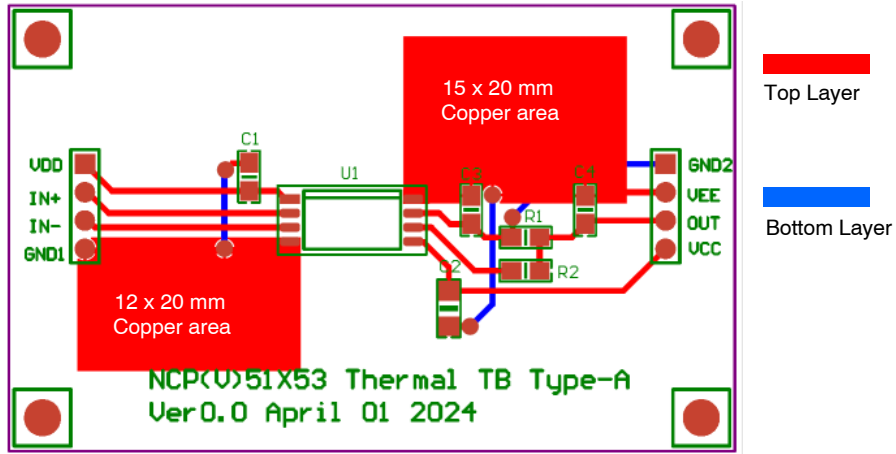

Figure 4. Reference Layout for the Type-A
- As specified for a reference layout shown in Figure 4. The DUT is mounted on a 65 x 40 x 1.6 mm FR4 substrate with an additional heat spreading copper of 240 mm²/300 mm² (Primary/Secondary). The copper thickness is 1 oz and test conditions is under natural convection or zero air flow.